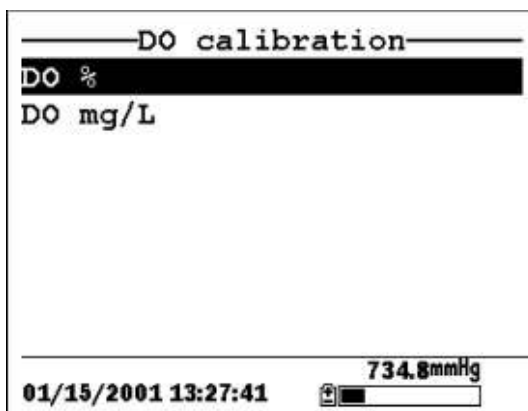

Figure 6.7 DO Calibration Screen
10. Press **Enter**. This returns you to the DO calibration screen, See Figure 6.7 DO Calibration Screen.
- 10.** Press **Enter**. This returns you to the DO calibration screen. See Figure 6.7 DO Calibration Screen.